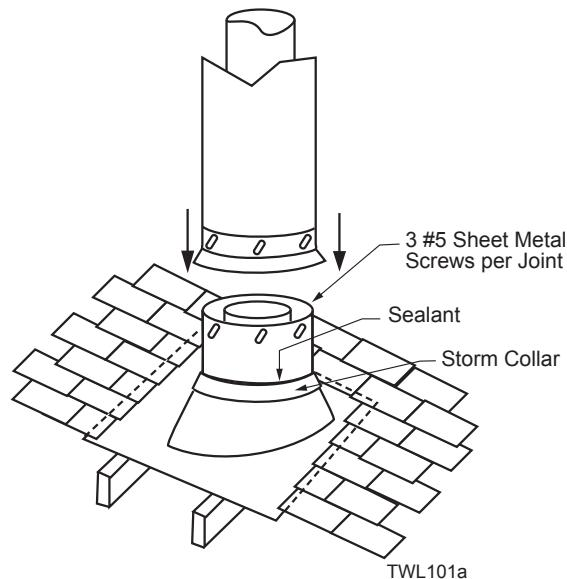

Figure 40 -
7. Install roof support (*Figure 38*) and roof flashing making sure upper flange is below the shingles. *Figure 40*
8. Install appropriate pipe sections until the venting is above the flashing. *Figure 40*
10. Add additional vent lengths for proper height. *Figure 40*